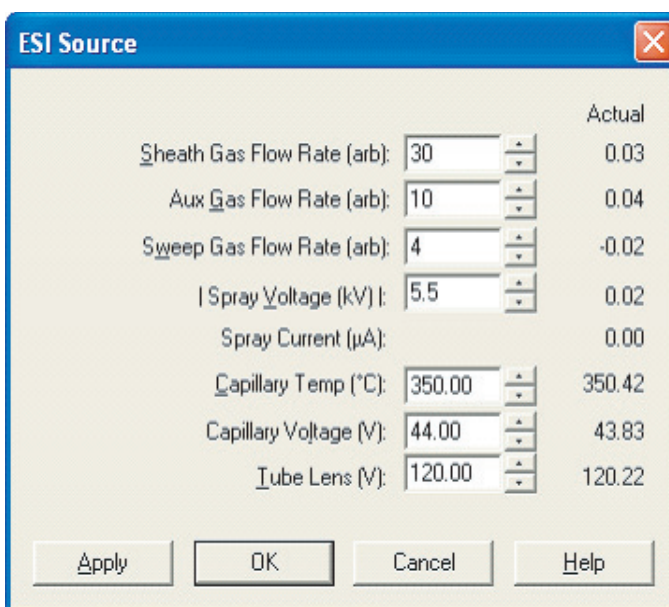
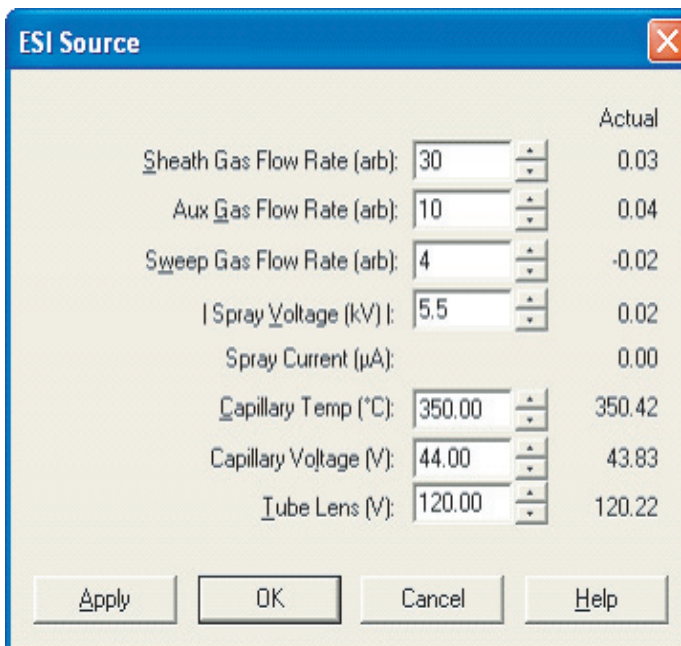

Figure 19. ESI Source dialog box, showing the settings to start a typical low flow experiment
Figure 25. ESI Source dialog box, showing typical parameters after automatic tuning
- a. From the Instrument Setup toolbar, click on the API Source button to open the ESI Source dialog box. Verify that the settings in your dialog box are the same as those shown in Figure 19.
- c. Click on the API Source button to open the ESI Source dialog box. (See the Spray Current readback shown in Figure 19.)
8. Click on the ESI Source dialog box to examine the ESI source parameters after tuning. Compare the settings shown in Figure 25 with the pre-tune settings shown in Figure 19 on page 3-47.